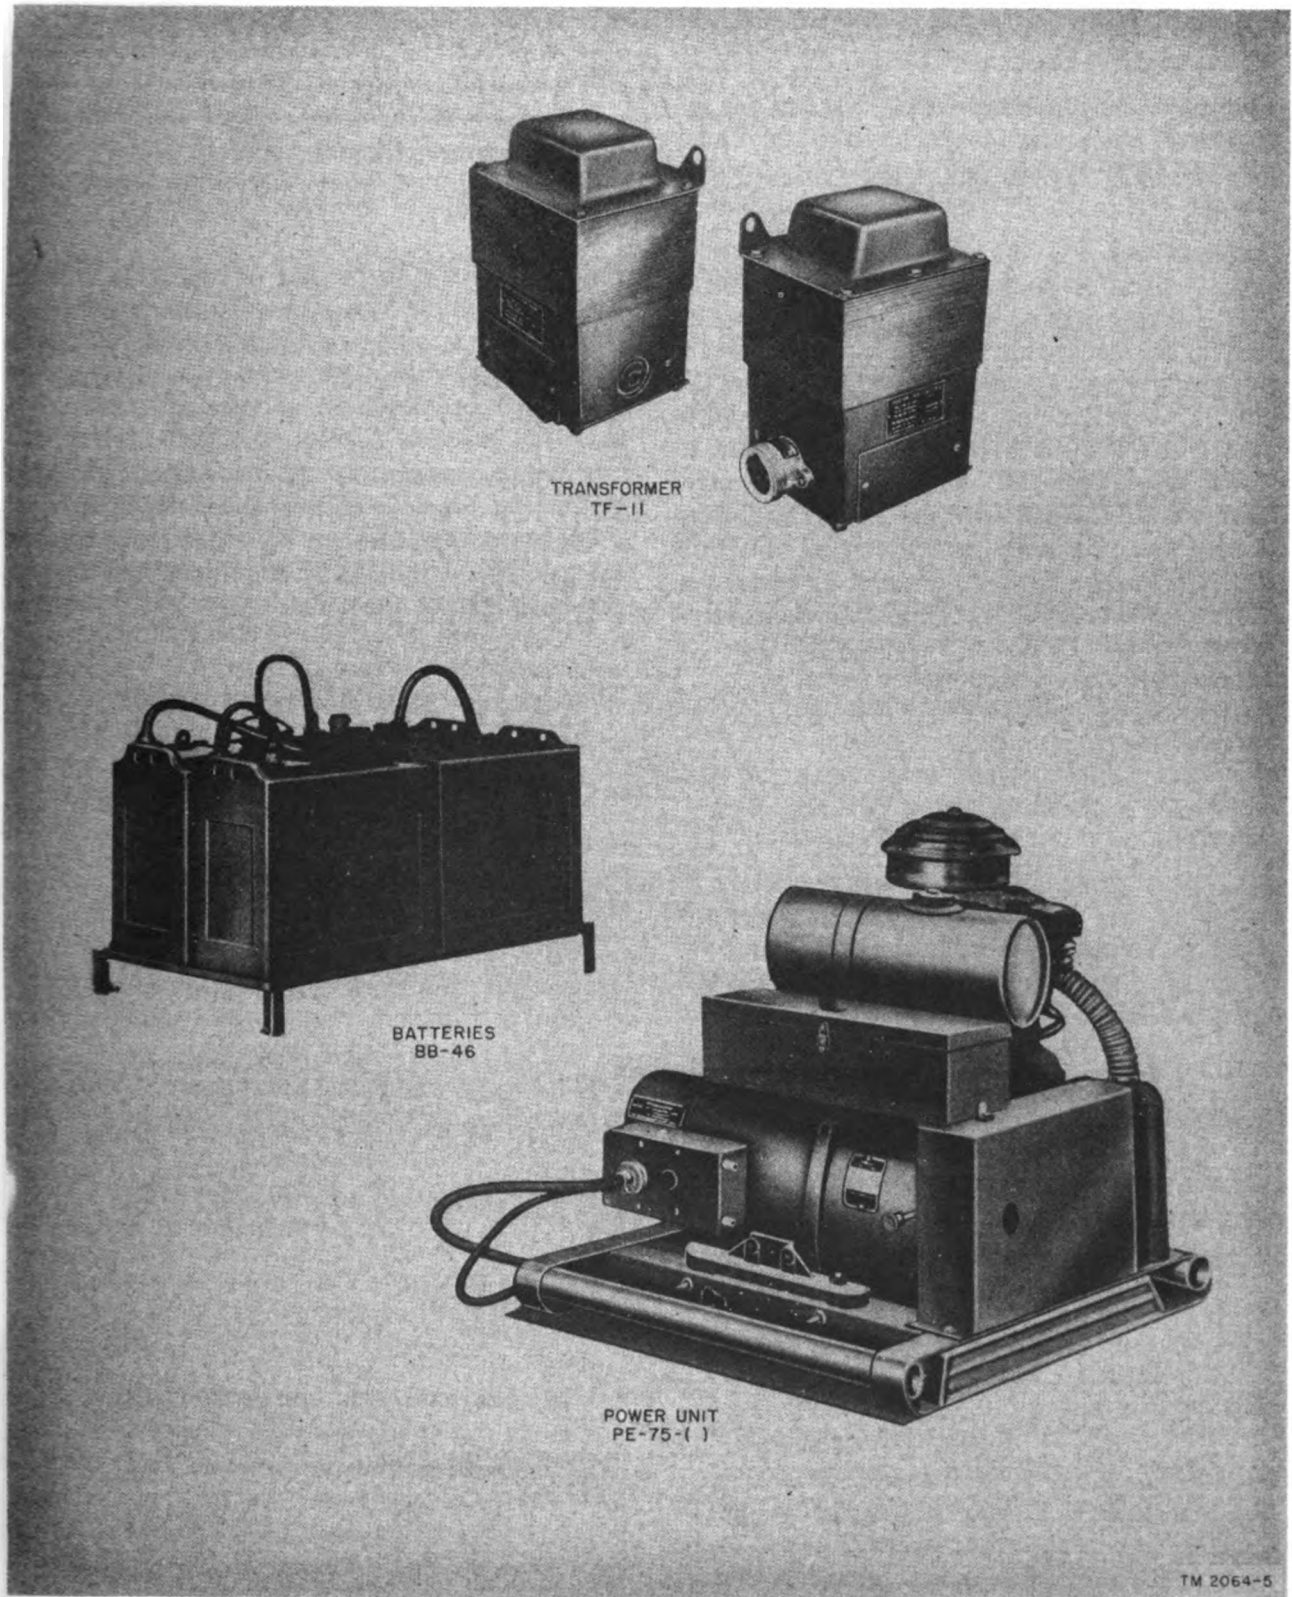

Figure 11. Accessory equipment not supplied with, but used with, Panel BD-132.
a. BATTERY BB-46 (fig. 11). In most telephone central offices in which Panel BD-132 is used, Battery BB-46 or an equivalent may be used to furnish power for the 24-volt and 48-volt circuits and the emergency ringer. For the type of operation for which Battery BB-46 is used four of these batteries are connected in series. When Panel BD-132 is used in a central office set-up, the batteries are generally floated in the line, meaning that much of the time they are used mainly for stand-by purposes. The rectifier is capable of supplying the current
b. POWER UNIT PE-75-() (fig. 11). Power Unit PE-75-() supplies 110-volt, 60-cycle power when a commercial source of power is not available. TM 11-900 covers this power unit in detail.
c. TRANSFORMER TF-11 (fig. 11). When a 220-volt a-c power source is the only source available for operation of Panel BD-132, Transformer TF-11 is used to step down the power supply to 110 to 115 volts.